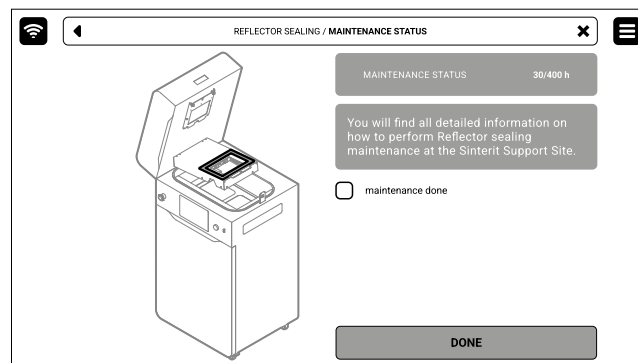

Fig. 12.47 The screen of the maintenance of the Reflector sealing.
2. Mark **MAINTENANCE DONE** to complete the cleaning procedure, and then the **DONE** button. The timer will reset to zero (fig. 12.47).